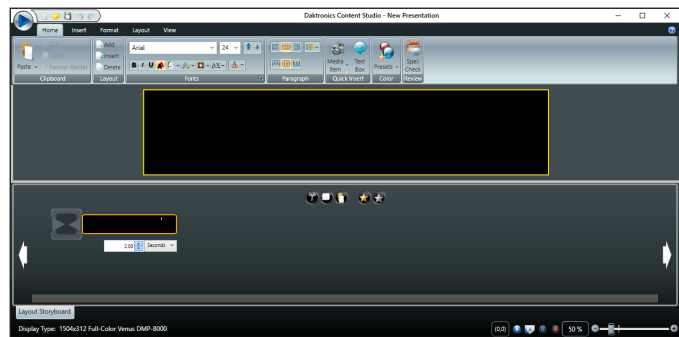

Figure 7: Content Studio Canvas
5. Select the desired display from the list. The **New Presentation** opens with a black workspace or canvas that represents the selected display size. Refer to **Figure 7**.